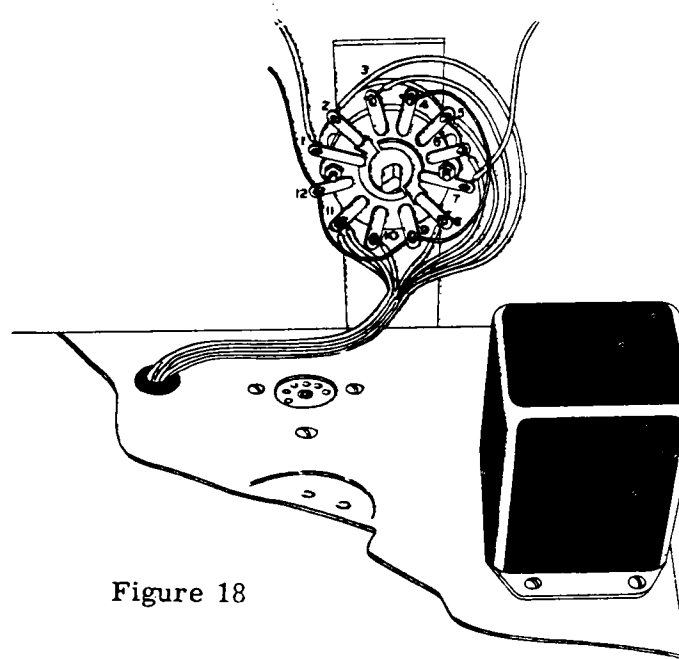

Figure 18
- () Connect a line filter choke from the 1-lug terminal strip on the chassis center brace (NS) to pin 1 of the rear apron octal socket (S). (See Pictorial 10, Page 49.)
- () Connect a .005 μ fd disc ceramic capacitor from the single lug (NS) to the adjacent ground solder lug (S).
- () Connect a blue wire from the terminal strip lug (S) to terminal 1 of the PLATE switch M (S). Run the wire against the chassis center brace.
- () Locate the meter switch and identify the switch terminal numbers by referring to Figure 18. Use #20 bare wire to tie switch terminals 4, 9 and 12 together and leave 5" of wire extending from terminal 12. Solder these connections.
- () The switch may now be temporarily mounted so that its wiring can be completed. For convenience, a special switch bracket has been included to facilitate switch wiring before the panel is mounted. The bracket is shown in Figure 18. Temporarily mount one end on the audio gain control and mount the switch through the hole in the other end.
- () Two violet leads on switch terminal 11 (S).
- () Gray lead on switch terminal 10 (S).
- () White lead on switch terminal 8 (S).
- () Yellow lead on switch terminal 6 (S).
- () Brown lead on switch terminal 5 (S).
- () Red lead on switch terminal 3 (S).
- () Connect a 3" red wire to terminal 1 (S) and leave the other end free.
- () Connect a 3 1/2" black lead to terminal 7 (S) and leave the other end free.